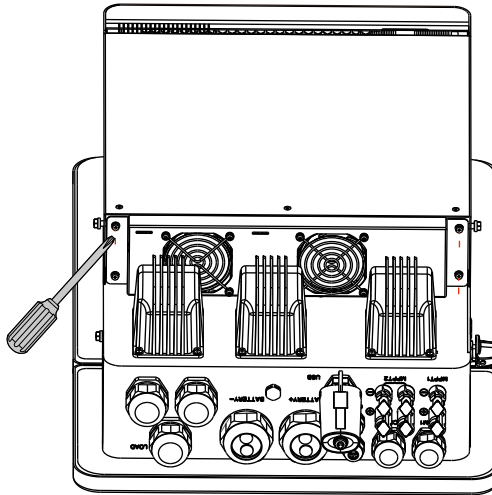

Fig 9.1
- 2> Remove the fan fixing plate using a cross-head screwdriver, as shown in Fig 9.1: